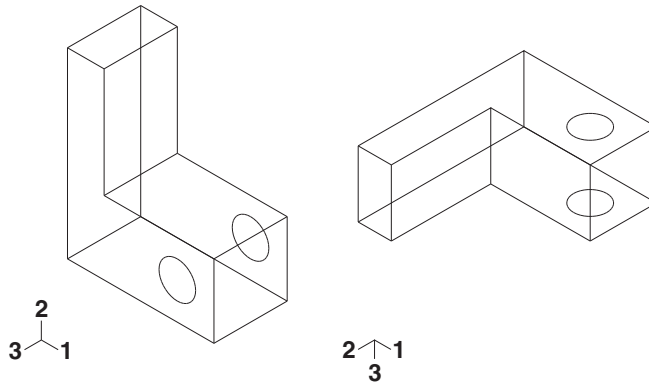

Figure 5–11 Specifying an incremental model axes rotation angle.
- **Increment About Model Axes.** When you choose **Increment About Model Axes**, Abaqus/CAE simply applies the rotation to the current view. Figure 5–11 shows the result of applying an incremental model axes rotation of 90, 0, 0 from the isometric view.
- **Increment About Screen Axes.** The screen *X*-axis is horizontal, the *Y*-axis is vertical, and the *Z*-axis is out of the screen. The origin of the screen axes is the camera target. In most cases the camera target coincides with the center of the viewport, but some view manipulation methods can move the camera target (for more information, see “Camera modes and view terminology,” Section 5.1.1). When you choose **Increment About Screen Axes**, Abaqus/CAE simply applies the rotation to the current view. Figure 5–12 shows the result of applying an incremental screen axes rotation of 90, 0, 0 from the isometric view.